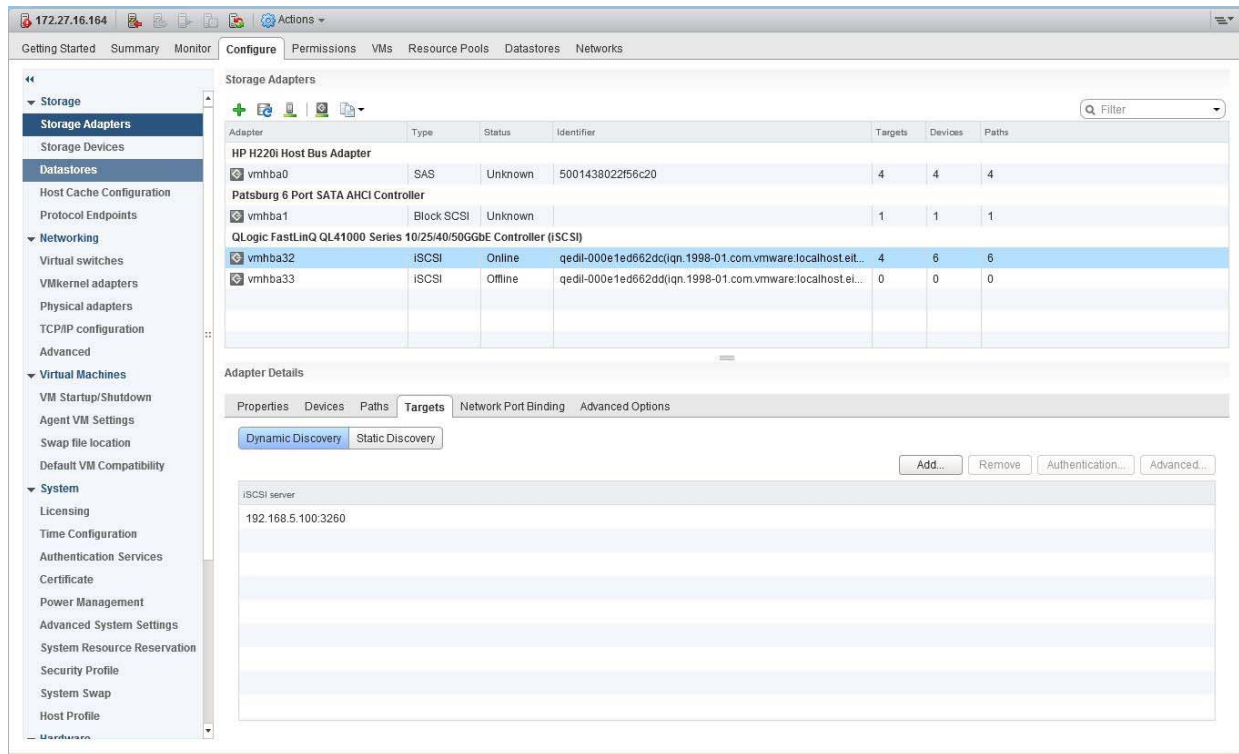

Figure 3-8. Dynamic Target Configuration Added
- ❑ After dynamic configuration is added, it is listed under **Adapter Details**, Targets page, Dynamic Discovery, as shown in Figure 3-8.